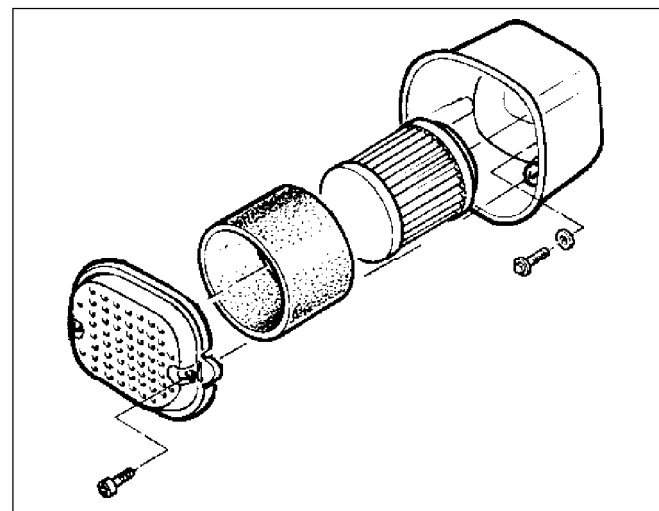
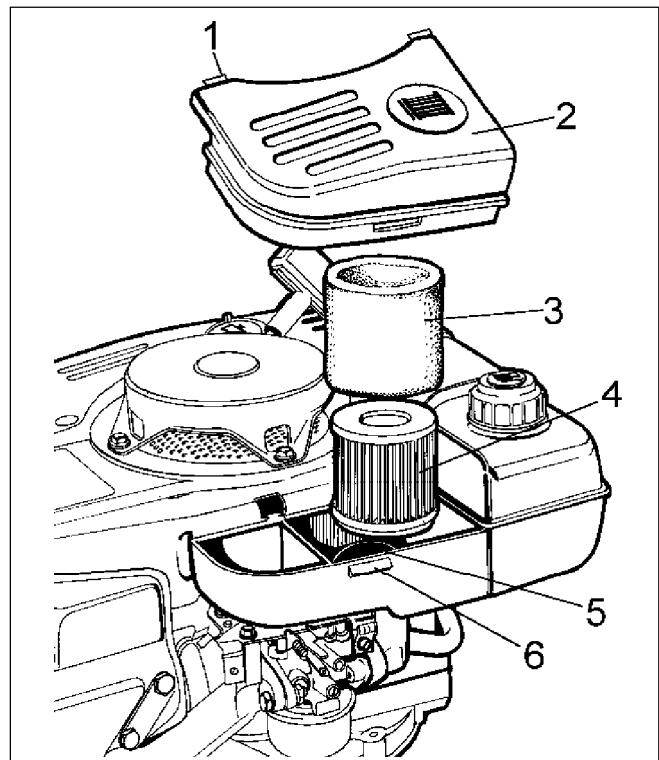

Fig. 12
Fig. 13A
This air cleaner consists of a paper type element with felt pad pre-cleaner around it. Fitting of air cleaner for horizontal crankshaft engines shown in Fig 12, for vertical crankshaft it is shown in Fig 13A and 13B.
- Loosen the two cover screws completely and remove cover from base (Fig 12)
- Replace the cover and tighten the two screws securely. (Fig 12).
VERTICAL CRANKSHAFT ENGINES DUAL ROUND SHAPED AIR CLEANER (Fig 13A)